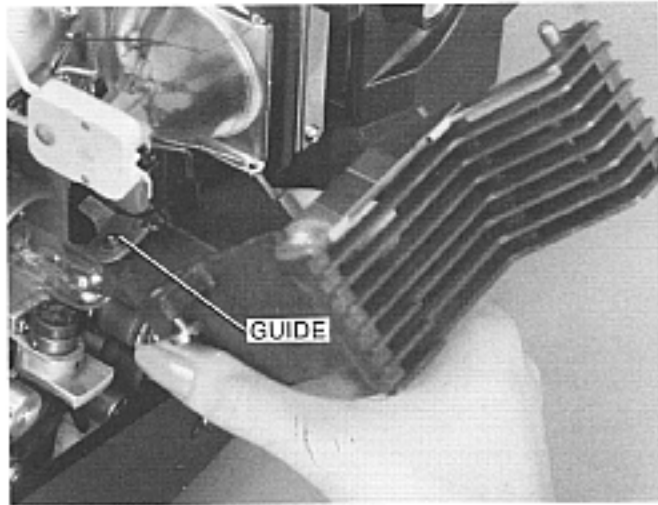

Figure 31
9. Be careful not to damage the exciter lamp when replacing the projection lamp cover. It will probably be easier if you put the guide at the bottom of the cover into the projector frame, as shown in Figure 31.